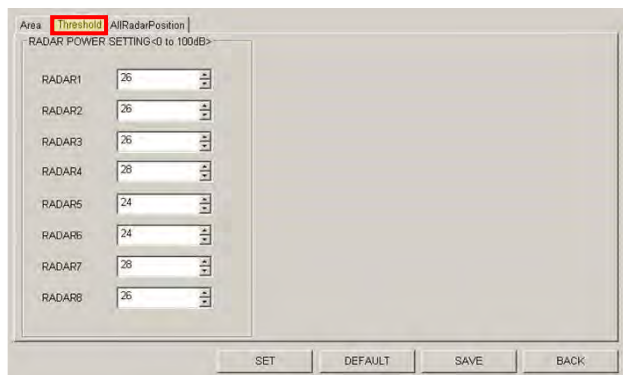

FIGURE 30-43. THRESHOLD SCREEN
- When the RADAR SETTING screen is displayed, select the Threshold tab. See Figure 30-43.